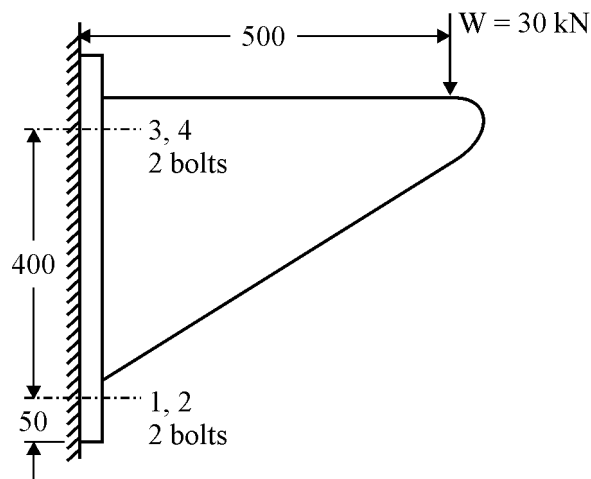

Fig. No. 1
- (c) A bracket as shown in fig no. 1 is fixed to the wall by means of four bolts. Find the size of the bolts if $\sigma_t = 70 \text{ N/mm}^2$ for bolt material